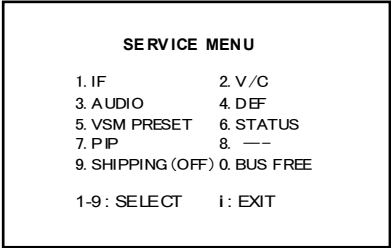
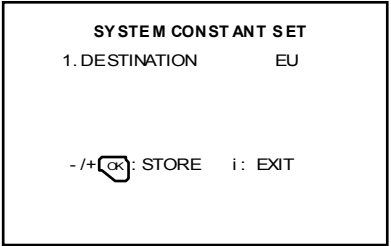

Fig.1
Fig.2
(1) Power off Switch the power off and unplug the power cord from the outlet.
(2) Replace ICs. Be sure to use memory ICs written with the initial data values.
(3) Power on Plug the power cord into the outlet and switch the power on.
(4) Check and set SYSTEM CONSTANT SET : - It must not adjust without signal. - Press the INFORMATION key and the MUTING key of the REMOTE CONTROL UNIT simultaneously. - The SERVICE MENU screen of Fig. 1 will be displayed. - While the SERVICE MENU is displayed, press the INFORMATION key and MUTING key simultaneously, and the SYSTEM CONSTANT SET screen of Fig. 2 will be displayed. - Check the setting values of the SYSTEM CONSTANT SET of Table 1. If the value is different, select the setting item with the FUNCTION UP/DOWN key, and set the correct value with the FUNCTION +/- key. - Press the MENU key to memorize the setting value. - Press the INFORMATION key twice, and return to the normal screen.
(5) Setting of receive channels Set the receive channel. For setting, refer to the OPERATING INSTRUCTIONS.
(6) User settings Check the user setting values of Table 2, and if setting value is different, set the correct value. For setting, refer to the OPERATING INSTRUCTIONS.
(7) Setting of SERVICE MENU Verify the setting items of the SERVICE MENU of Table 3, and reset where necessary. For setting, refer to the SERVICE ADJUSTMENTS.
Press the INFORMATION key and the MUTING key of the REMOTE CONTROL UNIT simultaneously, and the SERVICE MENU screen of Fig. 1 will be displayed.